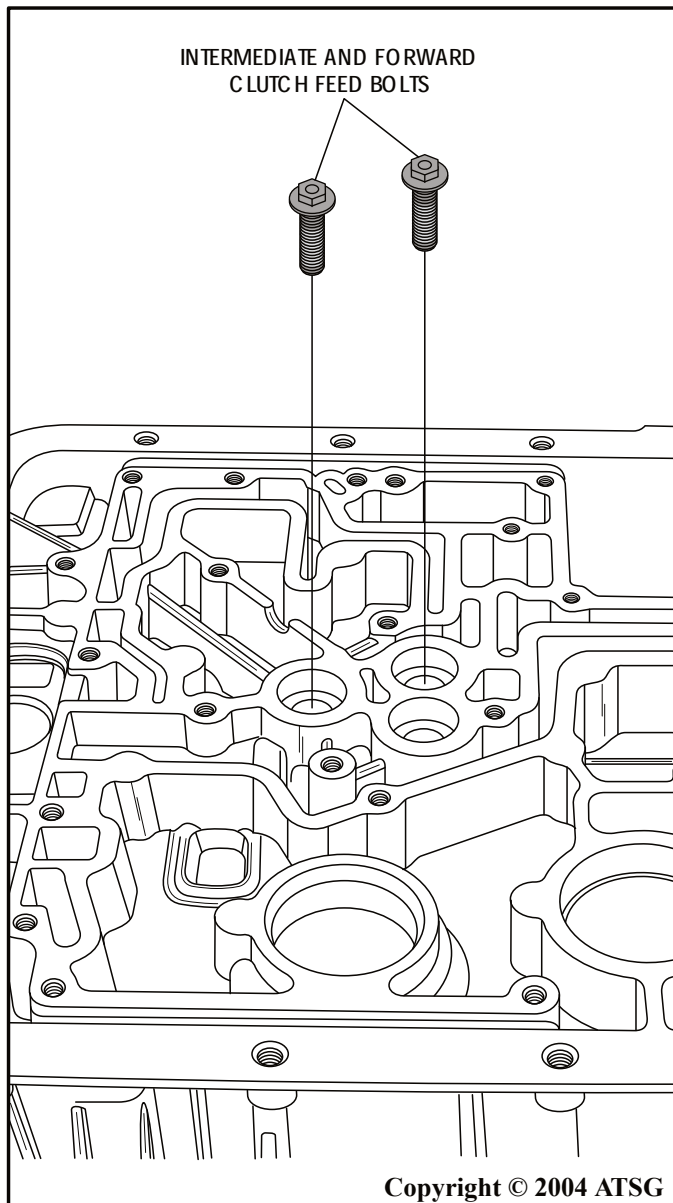

Figure 38
22. Remove and discard the two support feed bolts, as shown in Figure 38.